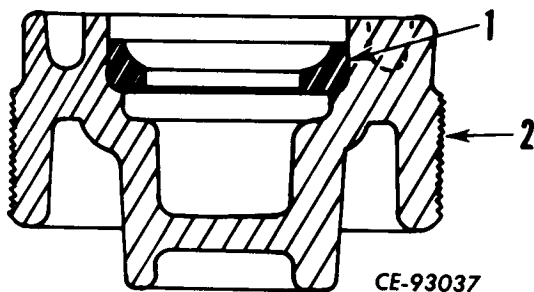

Figure 8-7
Pull old cup (1, Fig. 8-7) from the adjuster (2). Carefully press a new cup into the adjuster.